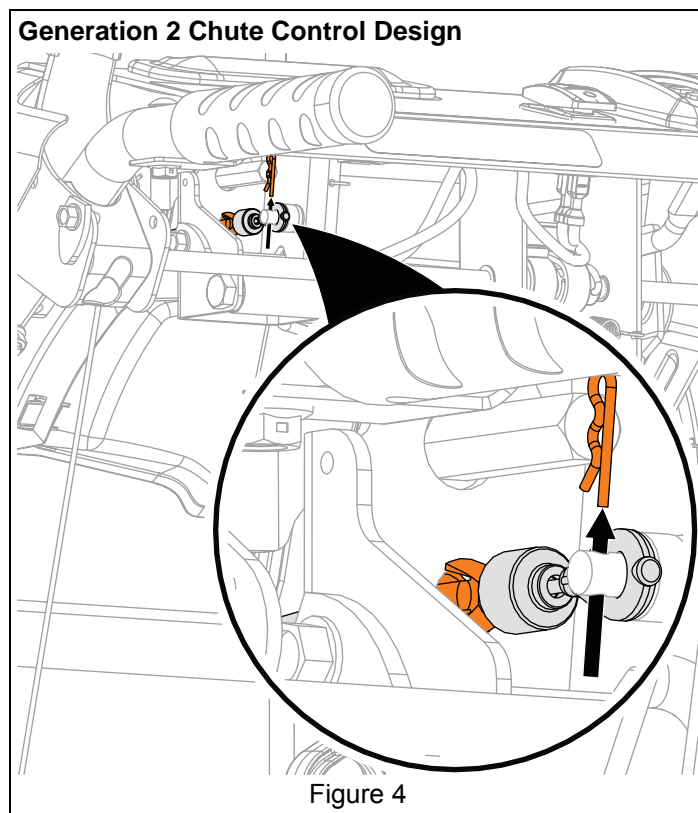

Figure 4
**IMPORTANT:** Discharge chute control designs differ based on serial number. Generation 2 chute control designs appear as shown in Figure 4 and Generation 3 chute control designs appear as shown in Figure 5. Continue to step 7 for service to units with Generation 2 designs and advance to step 11 for service to units with Generation 3 designs.
See Figure 4.